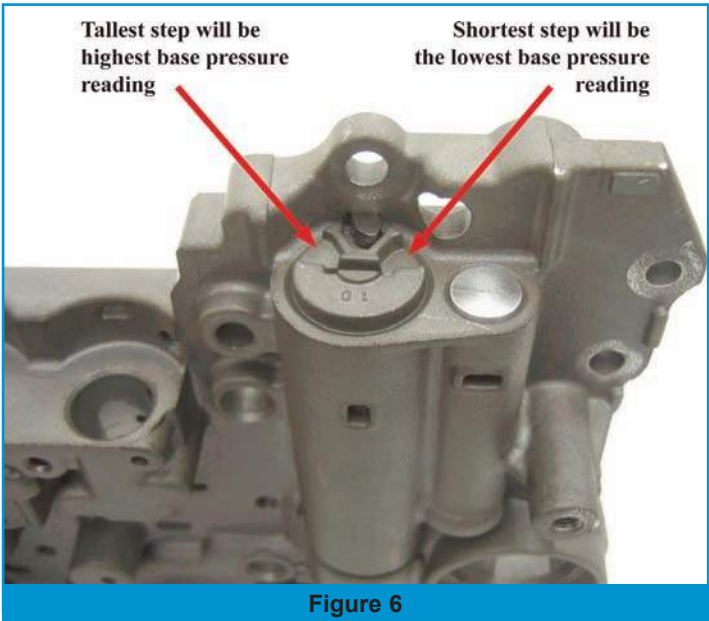

Figure 6
2. Make sure you record the primary regulator valve setting before removing primary regulator valve from the valve body. The tallest step will provide the highest base pressure reading; the shortest step will provide the lowest base pressure reading (figure 6).